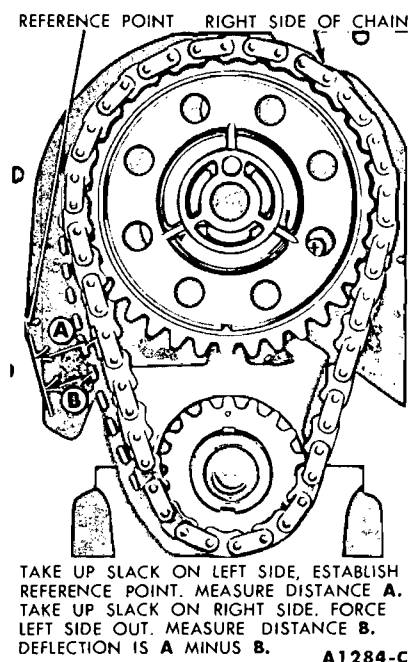

FIG. 14—Typical Timing Chain Deflection
2. Establish a reference point on the block and measure from this point to the chain (Fig. 14).